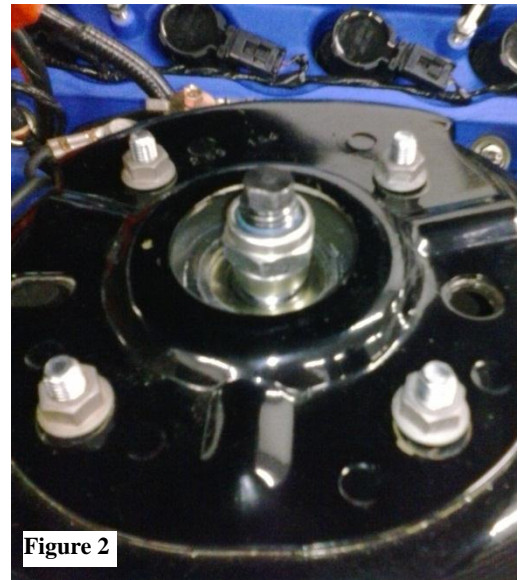

Figure 2
4. The strut shaft is installed through the spherical bearing with one of the 16 mm ID spacers above the camber plate and one below. See **Figure 2**.